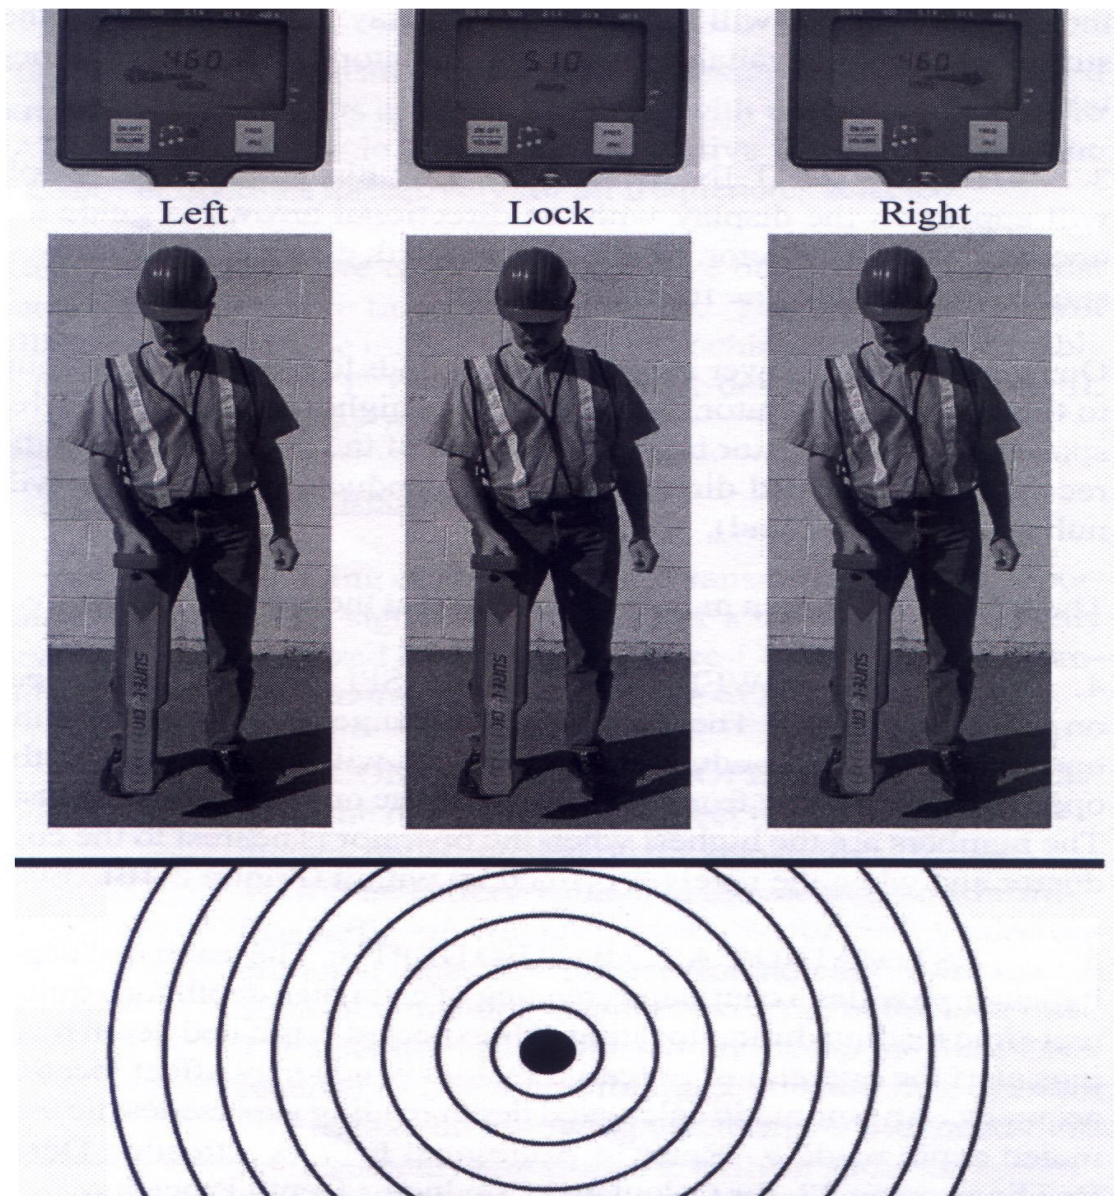

Fig. 2-10
1. Signal display: The signal strength indicator will appear on the display panel, and the range of numbers changes from 0 to 999. When the operator approaches the guide body, the value increases, on the contrary, the value decreases when away from the conductor. When the value reaches the maximum value, it indicates that the operator is very close to the conductor, and the receiver is in line with the conductor (see Figure 2-10).